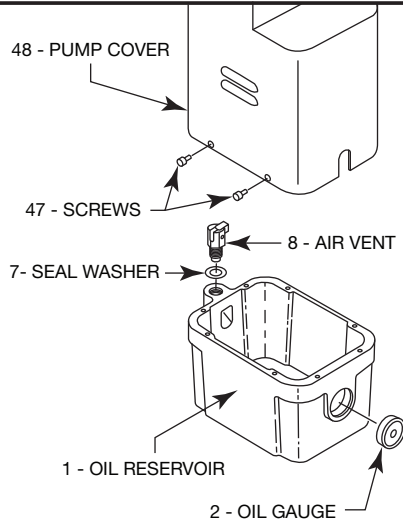

Figure 5
- 2) Check the hydraulic oil level and its contamination visually through the oil gauge (See Figure 5). Add hydraulic oil as appropriate. If contamination of the oil is observed, replace hydraulic oil completely (approximately 1 liter). Use Shell Tellus T15 hydraulic oil or equivalent.
- 3) When replenishing or replacing the hydraulic oil, remove the air vent (See Figure 5).